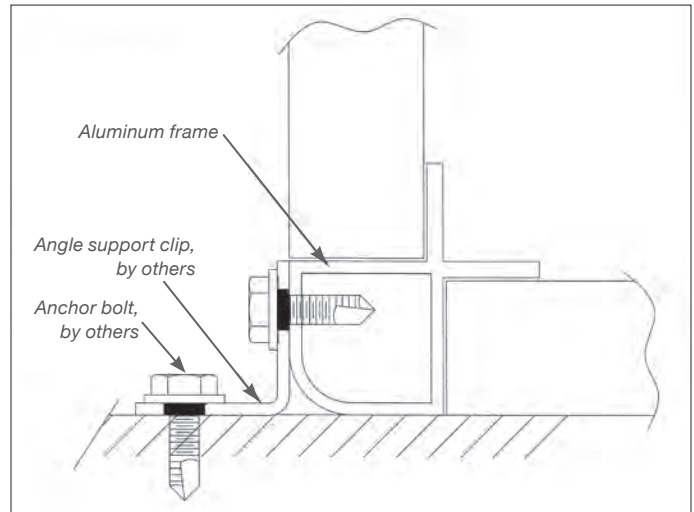

Figure 4
**Anchoring the Housing:** Depending on the project requirements, it may not be necessary to anchor the housing. However, if it should be necessary, a suggestion for anchoring the standard housing is provided in Figure 4.